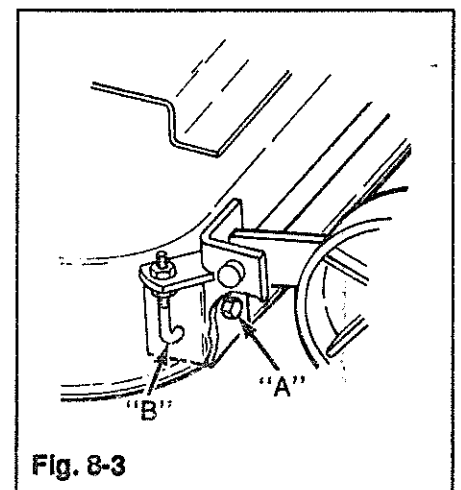

Fig. 8-3
If side to side leveling is required, an adjustment is provided at the rear left gage wheel. Adjust by loosening screws (A, Fig. 8-3) and either lowering or raising "L" rod (B).